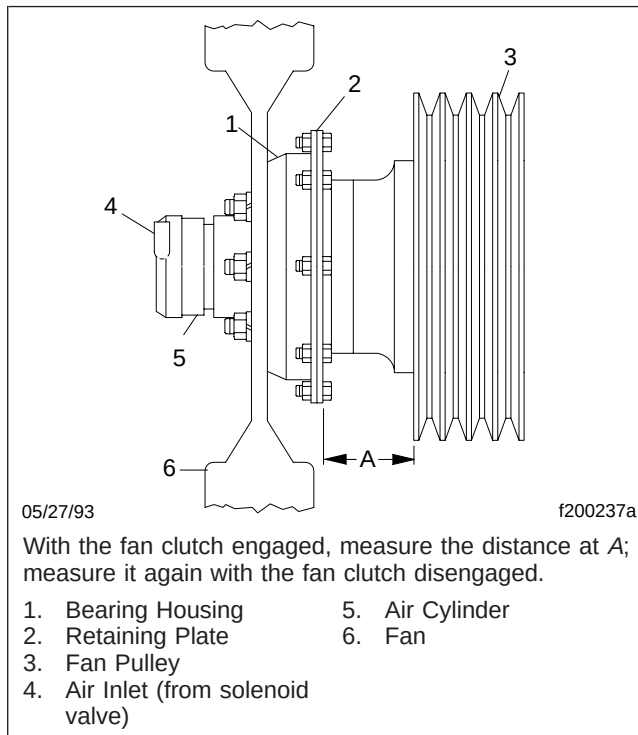

Fig. 7, Kysor K22RA Fan Clutch Lining Wear Checking
2. Measure the distance from the back surface of the fan clutch retaining plate to the forward-most edge of the fan belt pulley. See **Fig. 7**, Ref. A.